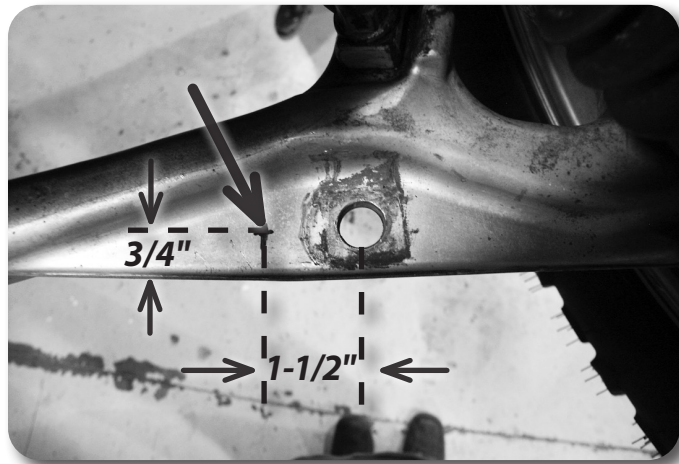

Figure 32
64. Locate the original sway bar link mounting hole on the lower control arm. Measure inward from the center on the hole  $1\frac{1}{2}$ " (toward the frame mount) and mark. Measure in from the back edge of the control near the first mark  $\frac{3}{4}$ " and mark. Where the two marks cross drill a  $\frac{5}{8}$ " hole Figure 32.